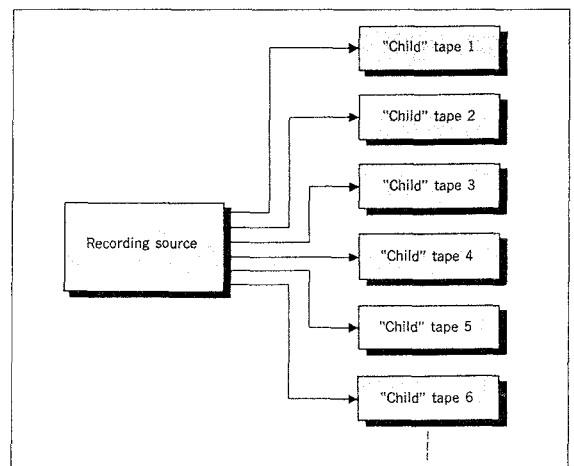

Fig. 8: Parallel copying
- Parallel copying is a method in which copies are made in parallel from the parent DAT (See Fig. 8). Specifically, there is a real-time method by which a user can connect a number of DATs to the parent DAT in parallel and use them to simultaneously produce many tape copies (first generation). There is also a time-sharing method that uses only one DAT for recording copies. In this latter case, a fresh tape is put in after the copy is made from the original and copying from the original is repeated; by exchanging tapes one after another, many first-generation copies can be produced.